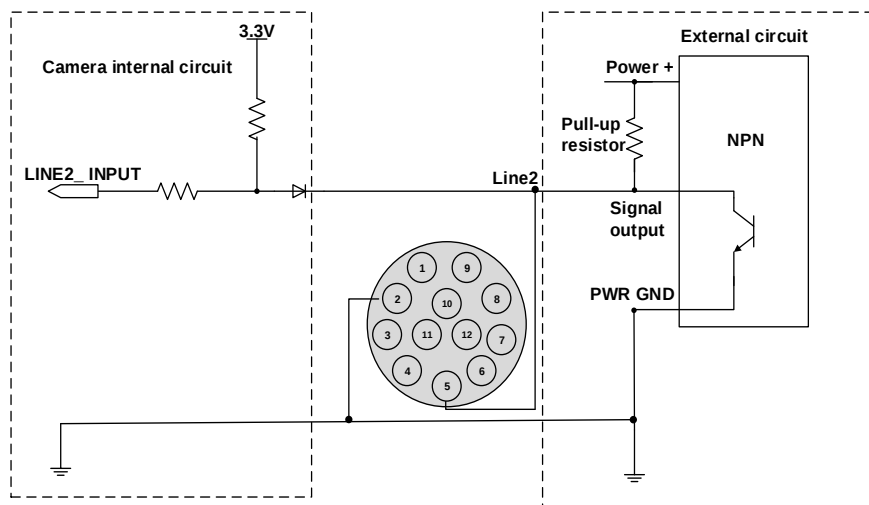
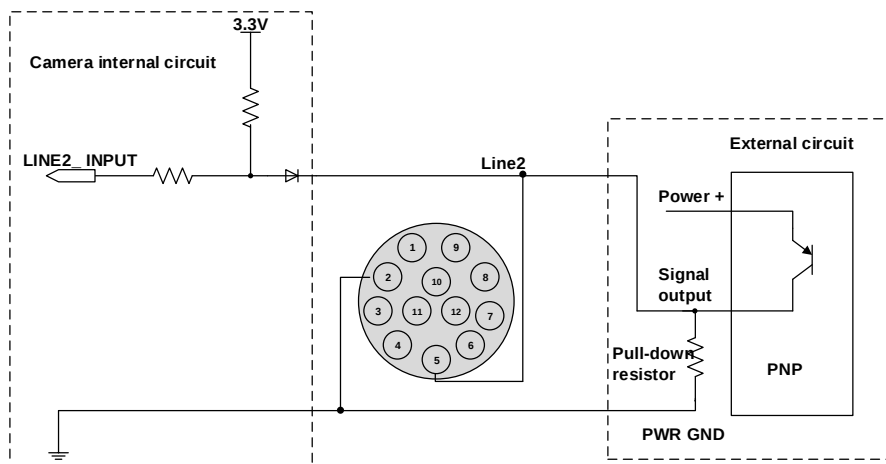

Figure 7-10 NPN photoelectric sensor connected to Line2 input circuit
Figure 7-11 PNP photoelectric sensor connected to Line2 input circuit
- When input of Line2/3 is high, input current is lower than 100μA. When input of Line2/3 is low, input current is lower than -1mA. When Line2 is configured as input. The connection method between them and NPN and PNP photoelectric sensors is shown in Figure 7-10 and Figure 7-11. The relationship between the pull-up resistor value and the external input voltage is shown in Table 7-4